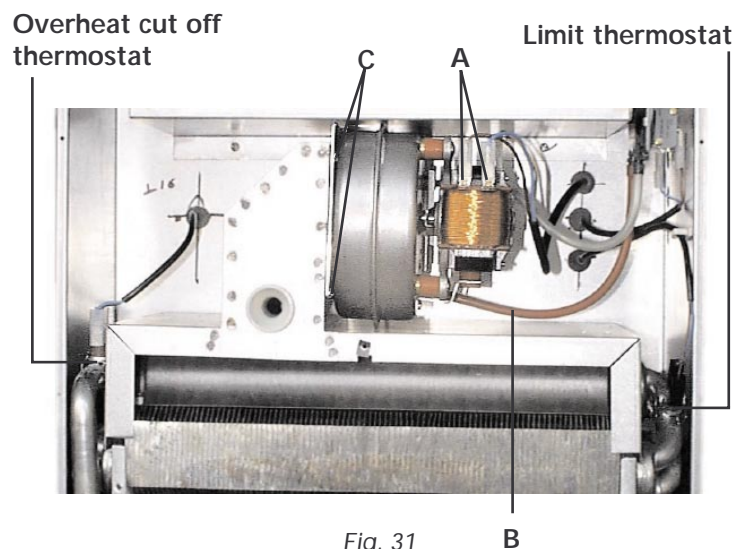

Fig. 31
7.11 Removal of fan (fig. 31)
7.12 Limit thermostat, or overhear cut off thermostat (fig. 31)
- Identify the location of thermostat from fig. 31